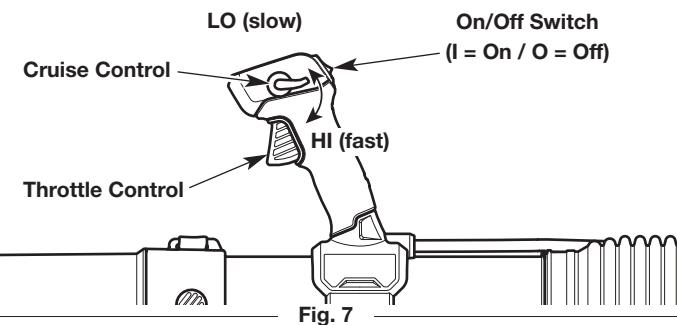

Fig. 7
NOTE: There is no need to turn the unit on. The On/Off switch is in the **On (I)** position at all times (Fig. 7).
3. Move the cruise control to the **HI (fast)** position (Fig. 7).
NOTE: Keep the cruise control in the HI (fast) position for ALL further steps (Fig. 7).
2. Press and hold the On/Off switch in the **Off (O)** position until the engine comes to a complete stop (Fig. 7).
- Use the cruise control to make continuous operation easier (Fig. 7).